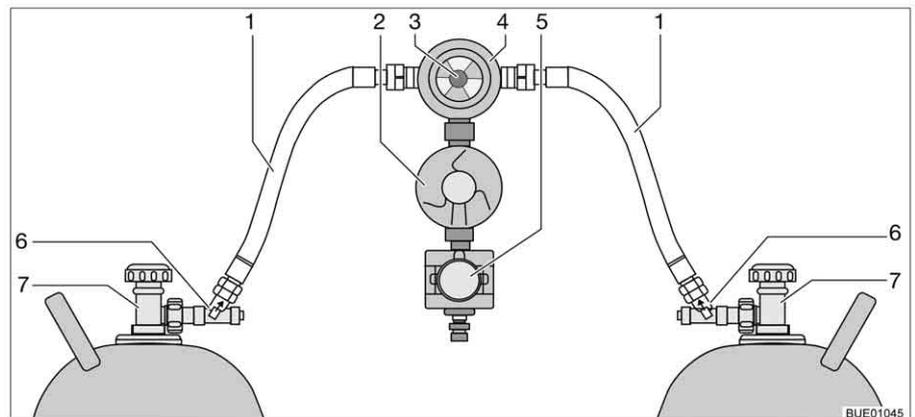

Fig. 99 Crash protection unit switching facility
The crash protection unit consists of two flow restrictors with manual release button (Fig. 99,6) a reversing valve (Fig. 99,4) with pressure regulator (Fig. 99,2), an electrovalve (Fig. 99,5) and the operating unit with tricoloured LED. The reversing valve is installed between the two gas tubes (Fig. 99,1). Use the knob (Fig. 99,3) on the reversing valve to select which of the gas bottles is to be used as a primary bottle and which is to be used as a reserve bottle.
Only the electrical functions can be switched at the operating unit (Fig. 100). The regulator taps on the gas bottles (Fig. 99,7) and the release buttons (Fig. 99,6) must be opened manually.
- Open the regulator taps of the gas bottles (Fig. 99,7).
- Press the release buttons (Fig. 99,6) successively for 10 seconds.
- Use the knob (Fig. 99,3) on the reversing valve (Fig. 99,4) to select the gas bottle which is to be the primary source of gas (primary bottle). Always turn the knob as far as it will go.
- Close the regulator taps of the gas bottles (Fig. 99,7).